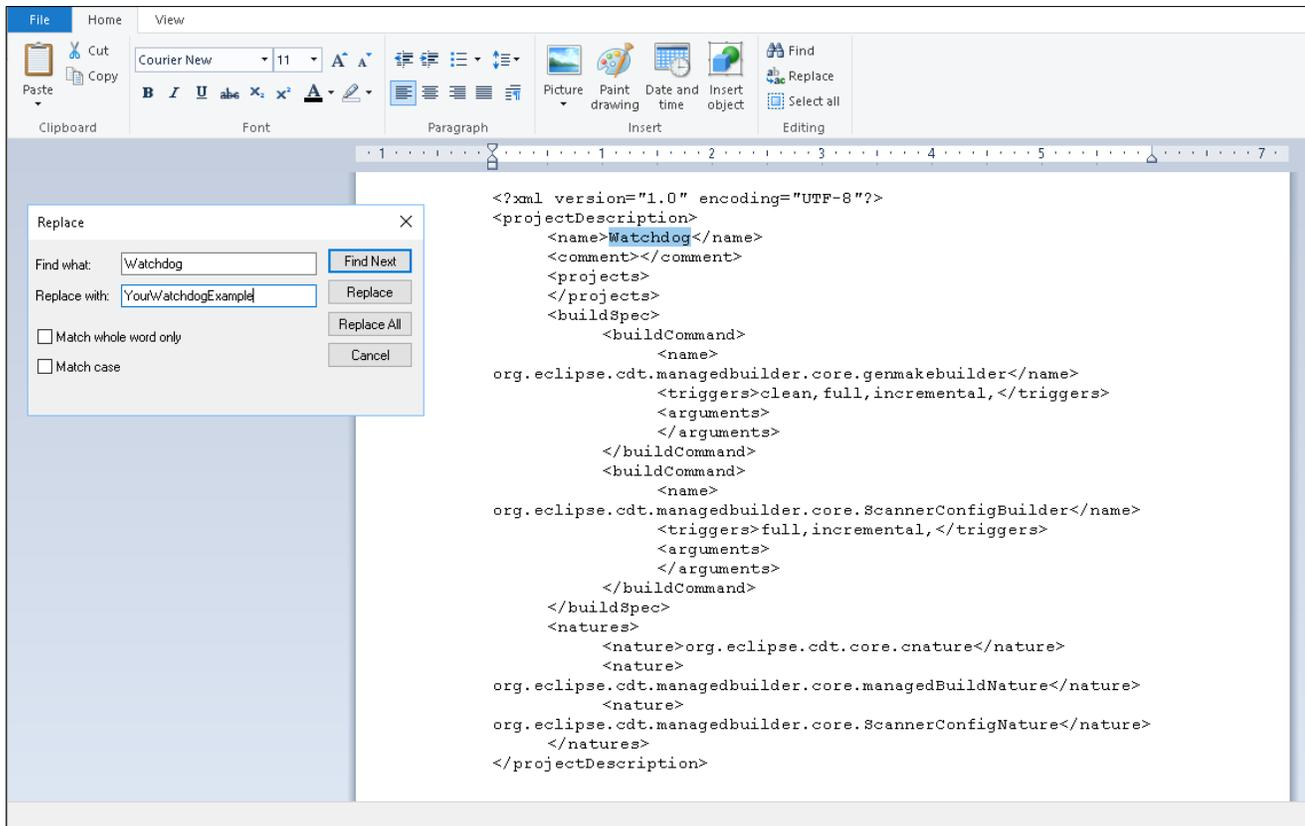

Figure 16. Finding and replacing the Watchdog project name in the .project file.
- Open the .project, .project, and YourWatchdogExample.launch files in a text editing tool, and change every occurrence of the Watchdog project name to YourWatchdogExample. **Figure 16** shows the only occurrence of the Watchdog project name in the .project file.